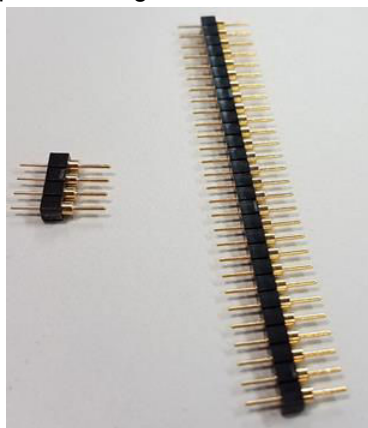

Figure 2-4. Terminal strip (TS-132-G-AA) broken into 4 position length
- For the DPW, DCN, DDF and DSG packages, the terminal strips need to be snapped into 4 position lengths, as shown in Figure 2-4.